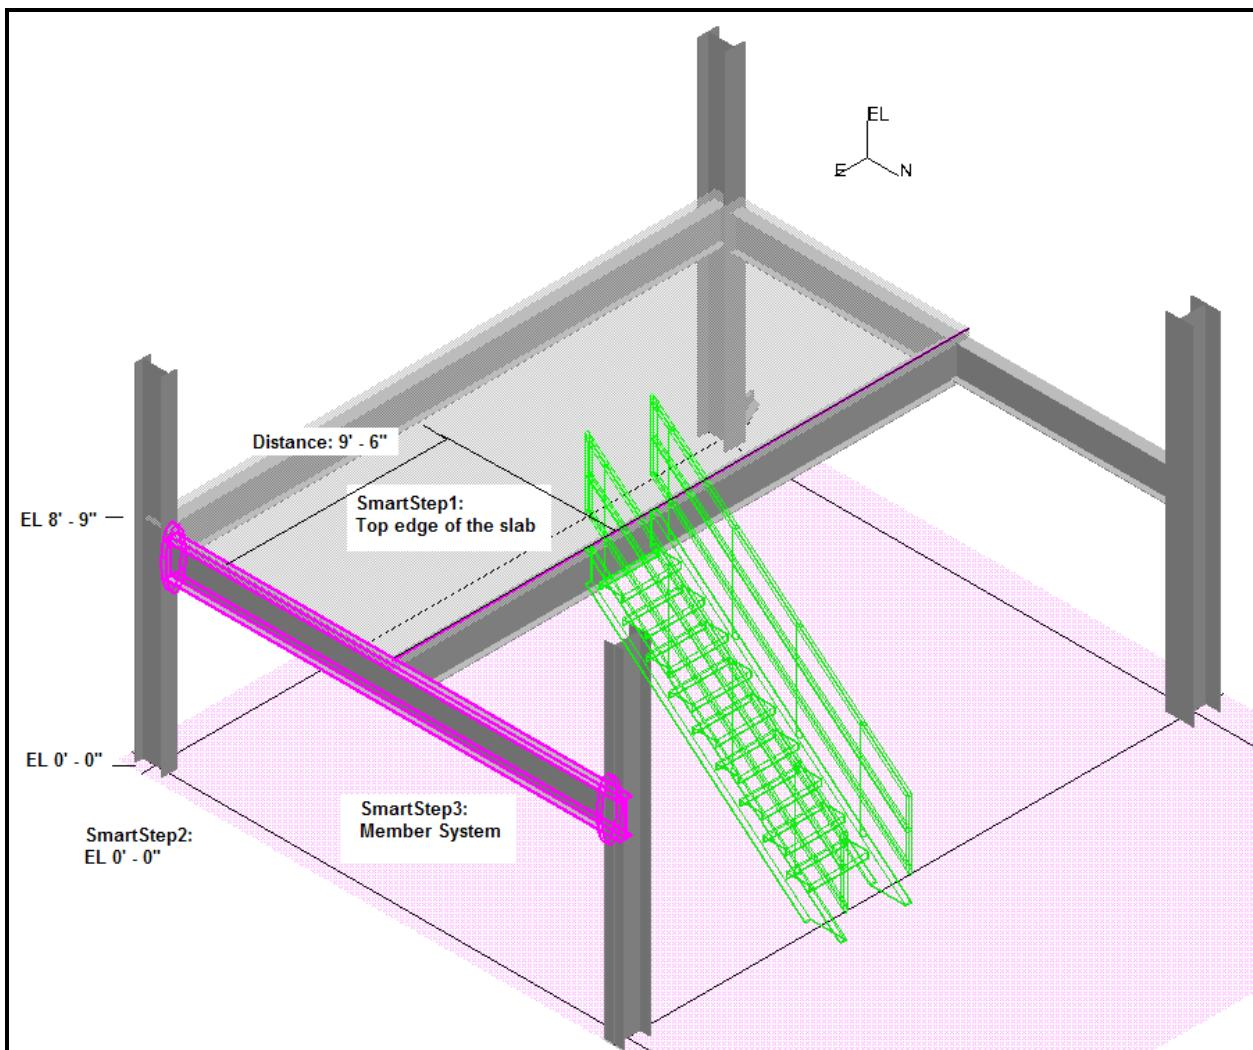

Figure 1 – ISO View of the first stair
4. Select the top edge of the beam. This defines the top elevation of the stair. See Figure 1.